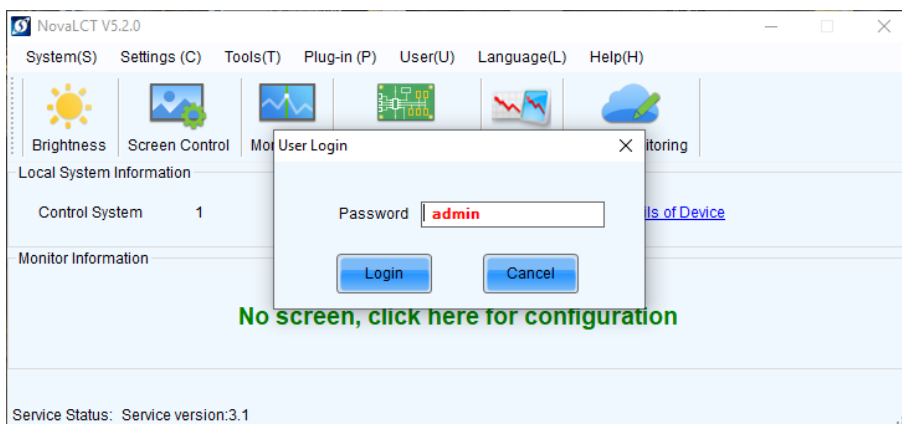

Figure 70: Entering Password
Step 3) Enter the password into the **Password** field. The default password is **admin**. Click the **Login** button to confirm the entry (see Figure 70). The start screen refreshes automatically.